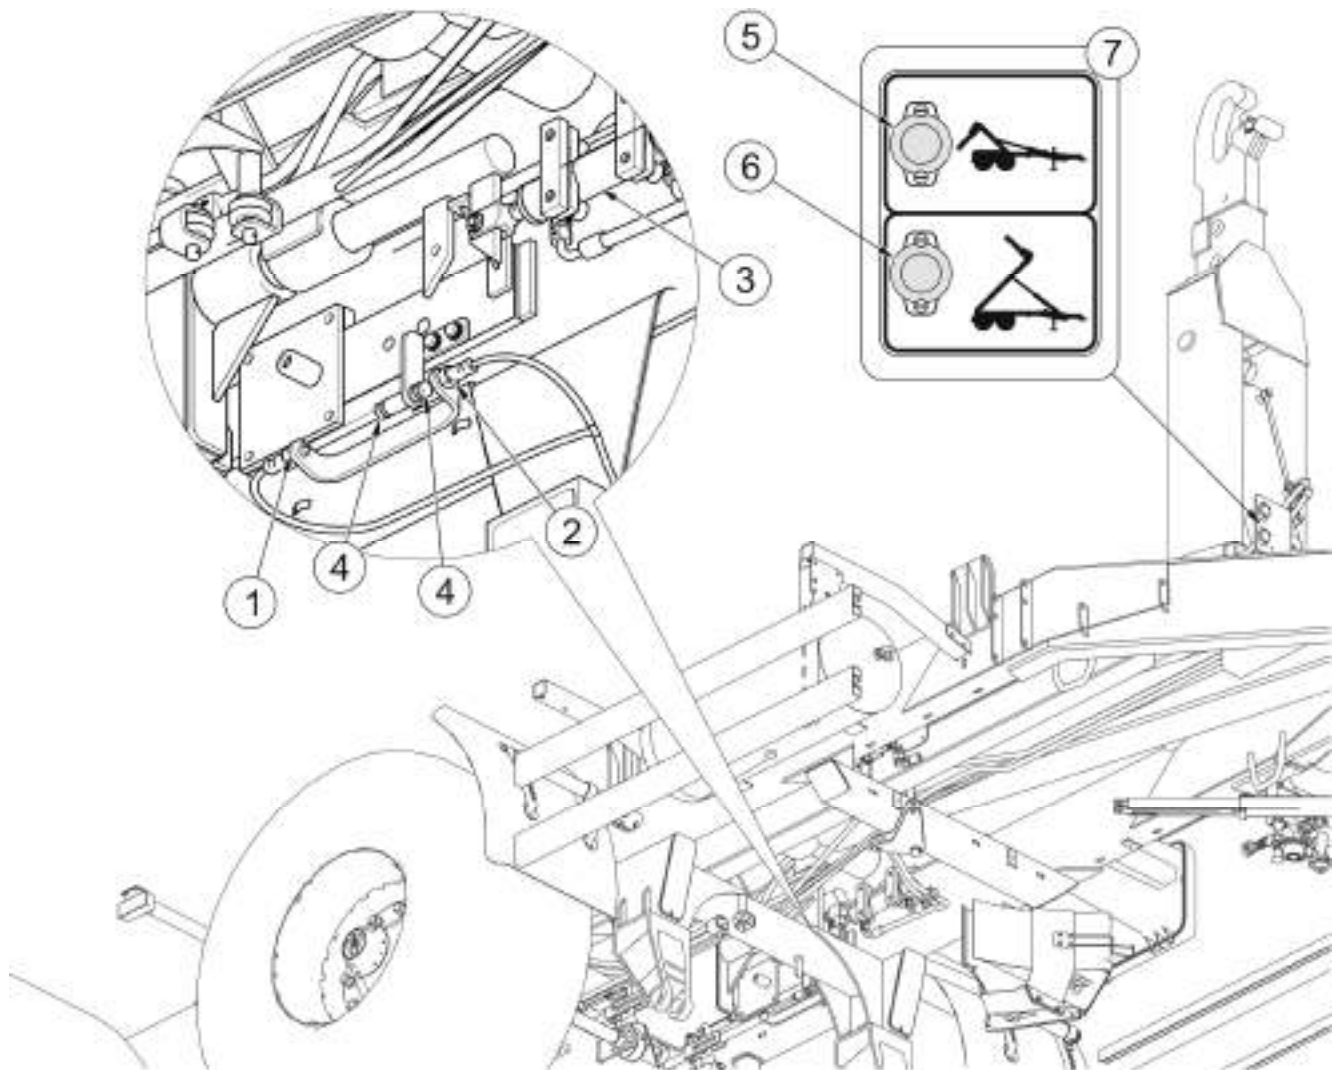

FIG. 3.3 Tipping frame locking
(1) left limit switch, (2) right limit switch, (3) switching cylinder, (4) bolt with nut, (5) clearance light I, (6) clearance light II, (7) indicator plate
Tipping frame lock mechanism is operated from the tractor driver's cab with the aid of the tractor external hydraulic system manifold lever (by proper activation of limit switches (1, 2) of switching cylinder (3) – figure 3.3). During tipping the load box to the rear, the central frame must be immobilised together with the rear frame (switching cylinder (3) is maximally extended). Left limit switch (1) must be pressed when the hook trailer is set to "tipper" position – in this position, clearance light II (6) located on indicator plate (7) must be switched on. The whole tipping frame is raised by the tipping ram.